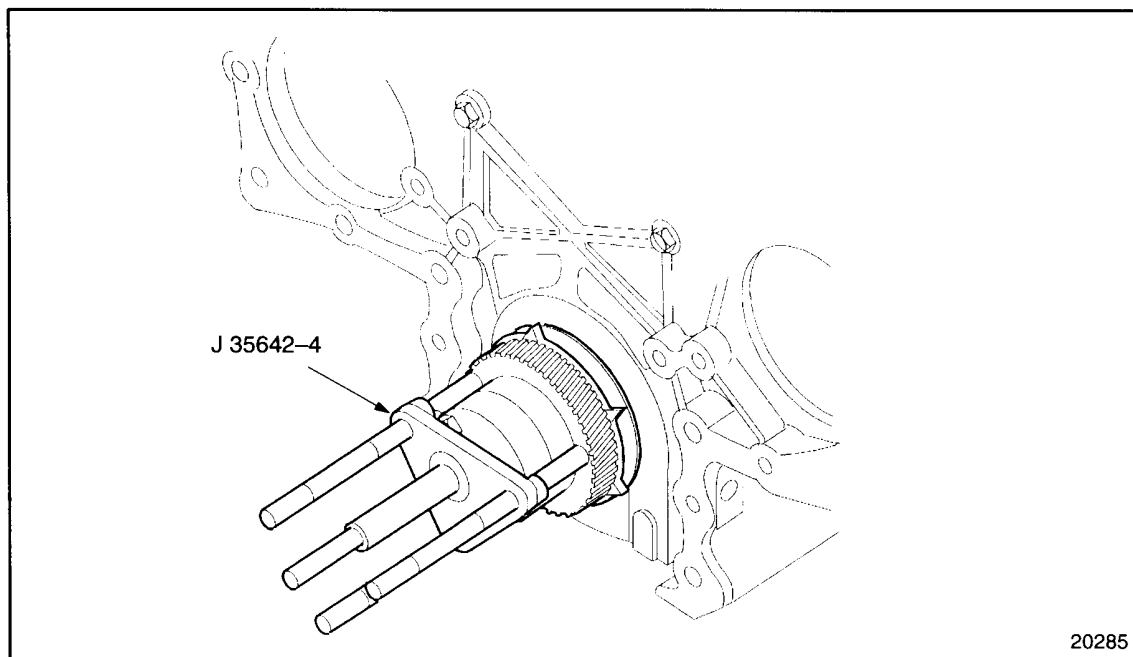

Figure 1-366 Pressure Plate Installation
7. Install the pressure plate, J 35642-4 part of J 35642, part of tool kit J 35642, to the three pulley legs. Seat the pressure plate against the flanges on the puller legs. See Figure 1-366.